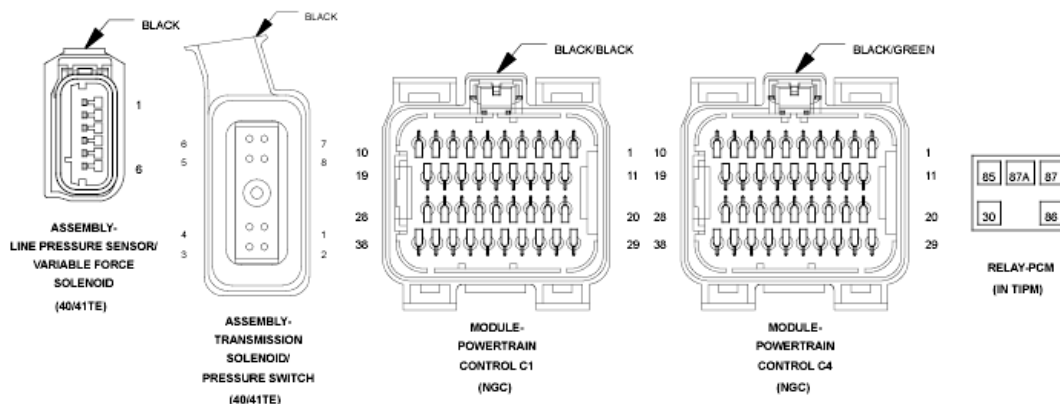

Fig. 77: TCM Power Control - Circuit Schematic
1. Using **Fig. 77** as a guide, inspect the wiring and connectors.